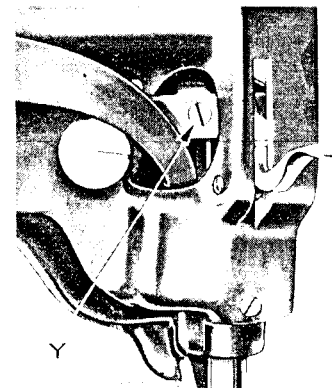

Fig. 20. Adjustment for Regulating Amount of Lift of Presser Feet
To change the relative lift of the presser feet, use the knee lifter to lift the presser foot, then loosen the presser bar lifting bracket pinch screw (Y, Fig. 20) at the back of the machine and move the presser bar upwardly or downwardly, as required, then securely tighten the pinch screw (Y).